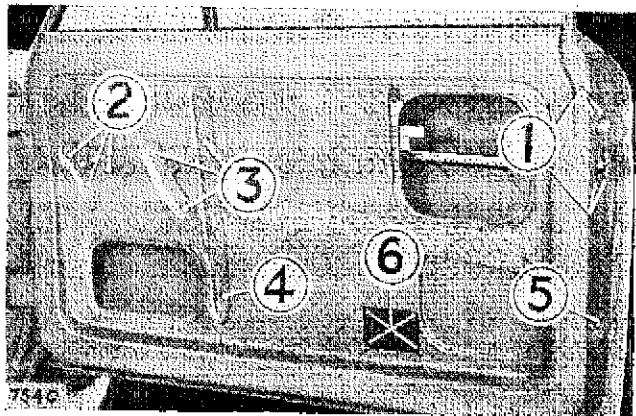

Fig. 6. General view of door with trim pad removed
DOOR WINDING WINDOW**To remove** (Fig. 6)
To remove (Fig. 6)
Remove the screws (1) securing the regulator to the inner door panel. (See also item 3 of Fig. 6.)